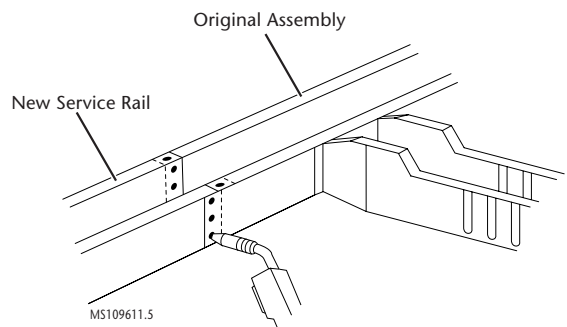

Figure 11-5:
- 6 Stitch weld along the entire joint. Make 25mm (1 in) welds along the seam with 25mm (1 in) gaps between. Then go back and complete the stitch weld. This will create a solid joint with minimal heat distortion (figure 11-5).